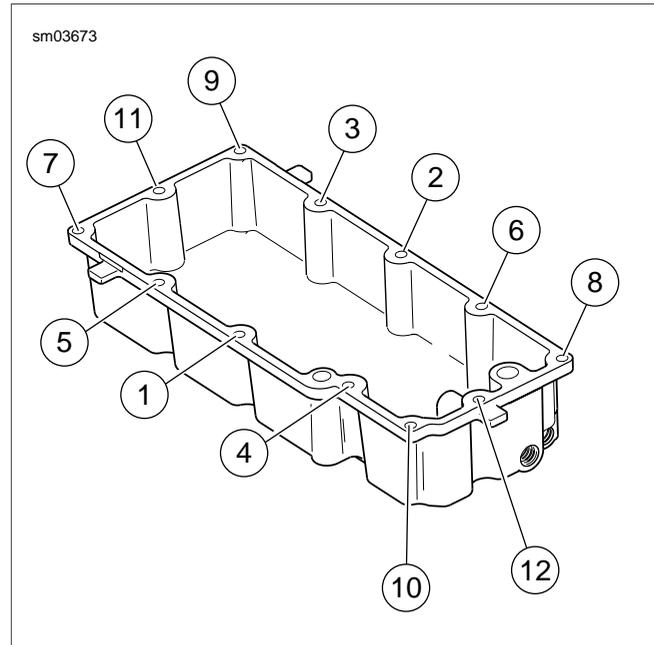

Figure 3-142. Oil Pan Torque Sequence
7. Alternately tighten the oil pan screws to 84-132 in-lbs (9.5-14.9 Nm) following sequence shown in Figure 3-142.